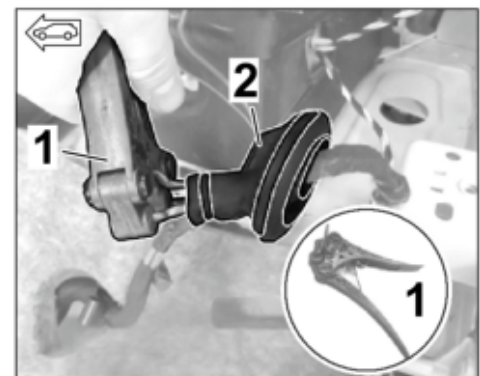

Figure 30
3.3.7 Guide the new branch for the exhaust flap (left/right) through the new grommet (left = $\varnothing$ 66.5 mm/right = $\varnothing$ 46 mm $\Rightarrow$ Figure 30) using three mandrel pliers and an auxiliary line (Tekalan or Teflon tube).